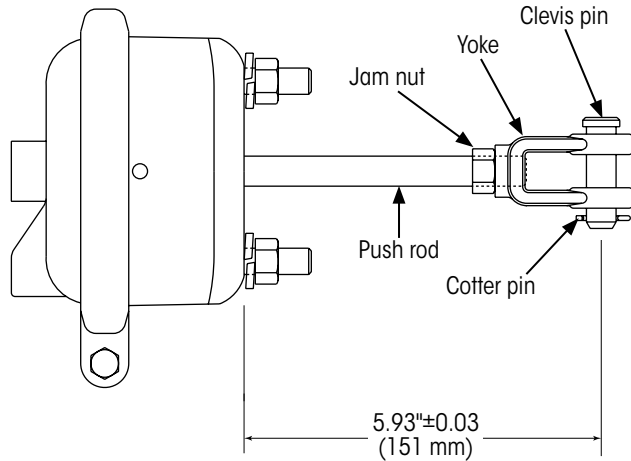

Figure 21: Verifying actuator free length
1. **Inspect** the new actuator to **ensure** the distance from the center of the clevis pin to the mounting surface of the actuator is 5.93 ± 0.03 inches (Figure 21). **If not:**